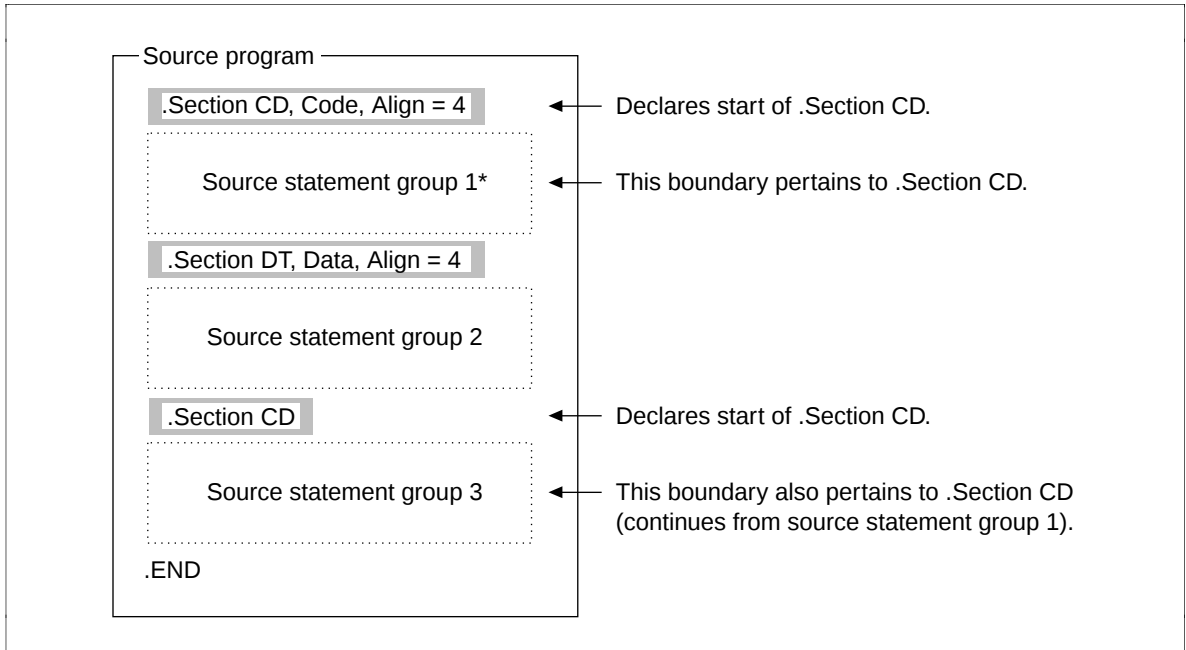

Figure B.2 Example of Section Reopening
- The already declared section can be redeclared in the same file and reopened. The example in figure B.2 illustrates section reopening. In this example, it is assumed that `.SECTION` should not appear in source statement groups 1–3.